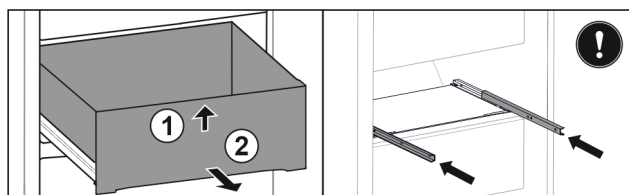

Fig. 48
- Lift up drawer at the front. Fig. 48 (1)
- Remove drawer to the front. Fig. 48 (2)